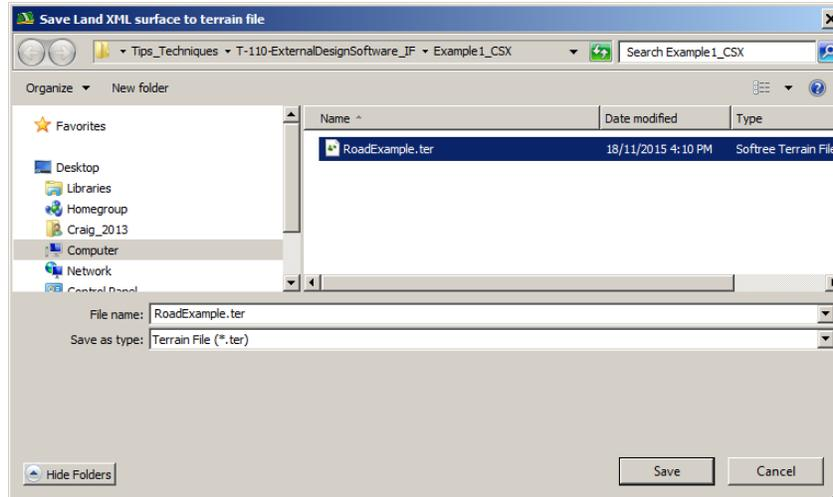

Figure 8: Save LandXML surface to Terrain dialog
10. When the *Save LandXML surface to Terrain* dialog appears (Figure 8 below), choose **RoadExample.ter**.